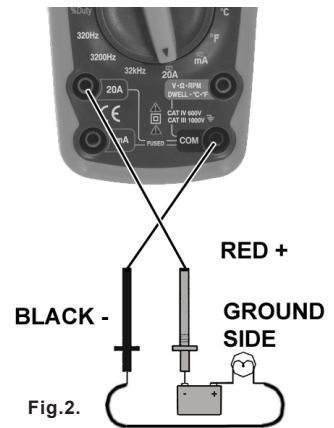

Fig.2.
4.8.4. Touch the test probes in series (fig.2) with the circuit under test and read the current on the display.